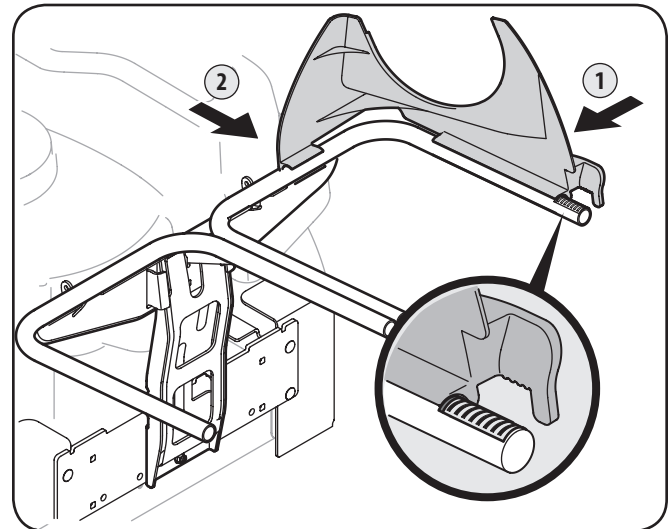

Figure 4-9
1. Snap the plastic upper chute support in place by first clipping the side portion onto the bagger support rail (1) with the edge of the snap feature aligned with the line on the label, as shown in the inset of Fig. 4-9.
2. Snap the front side of the chute support to the rail (2), as shown in Fig. 4-9.